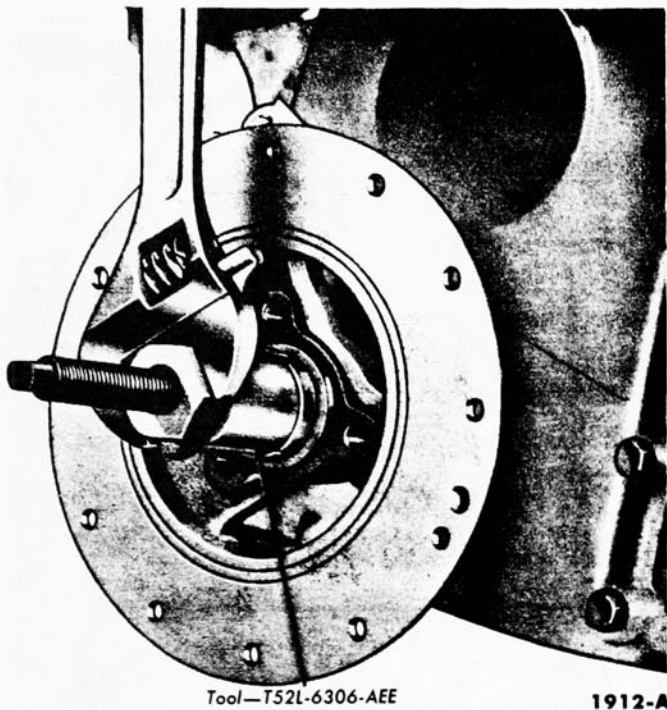

FIG. 45—Damper Installation
6. Line up the damper keyway with the key on the crankshaft, then install the damper on the crankshaft (Fig. 45).